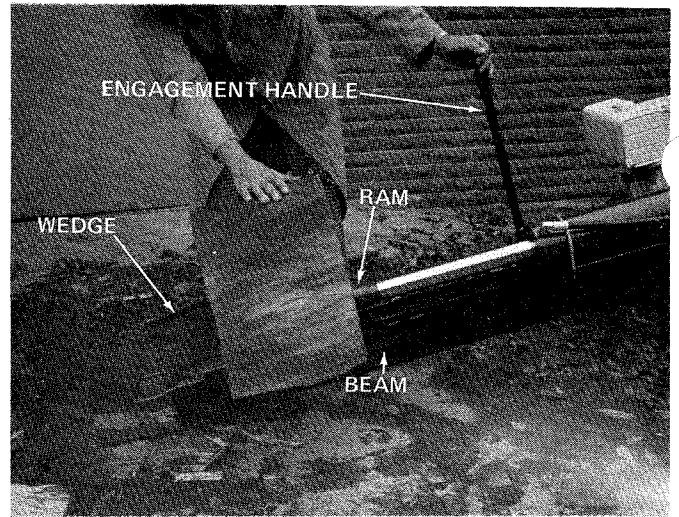

FIGURE 13
- D. Place log on beam and hold in place with right hand. See figure 13.